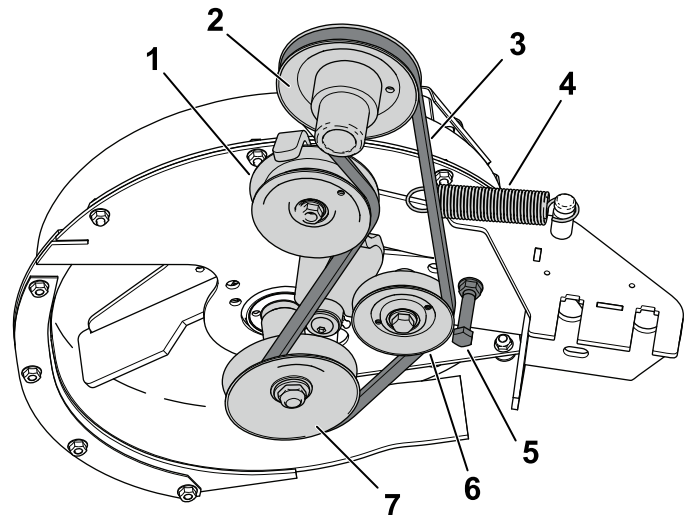

Figure 56
3. Loosen or remove belt guide (Figure 56).
4. Pull back on the spring-loaded idler pulley to relieve the belt tension (Figure 56).
6. Install the new belt around the blower pulley (Figure 56).
7. Tighten or install the belt guide (Figure 56).